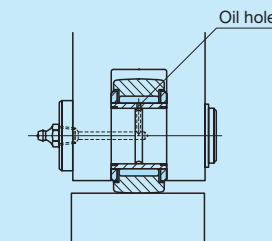

Fig. 2 Oil hole location and loading direction
- When mounting Roller Followers, make sure that the oil hole on the inner ring does not enter the loading area. Otherwise, product life may become shorter.(See Fig. 2)